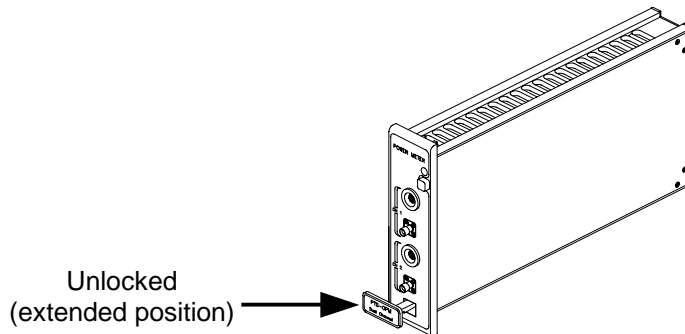
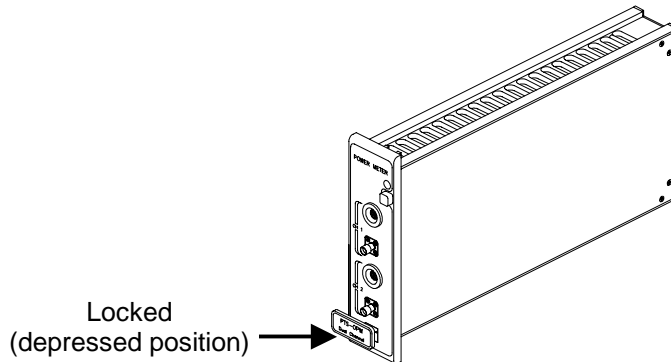

Figure 6 – Unlocked Test Module
Figure 7 – Locked Test Module
Refer to **Figure 6** and **Figure 7** for an example of the unlocked and locked positions for the lock tab.
2. Slide the lock mechanism up. The lock will extend to its unlocked position (see **Figure 6**).